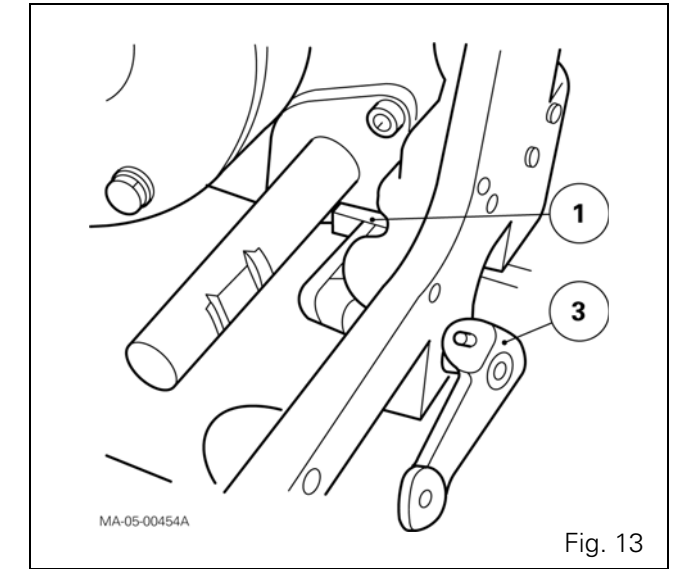

Fig. 13
21. Refit the lever (3) (Fig. 13). Tighten the screw.
IMPORTANT: Ensure that the finger (1) of the creeper gear control rod is pointing towards the front of the tractor (Fig. 13).